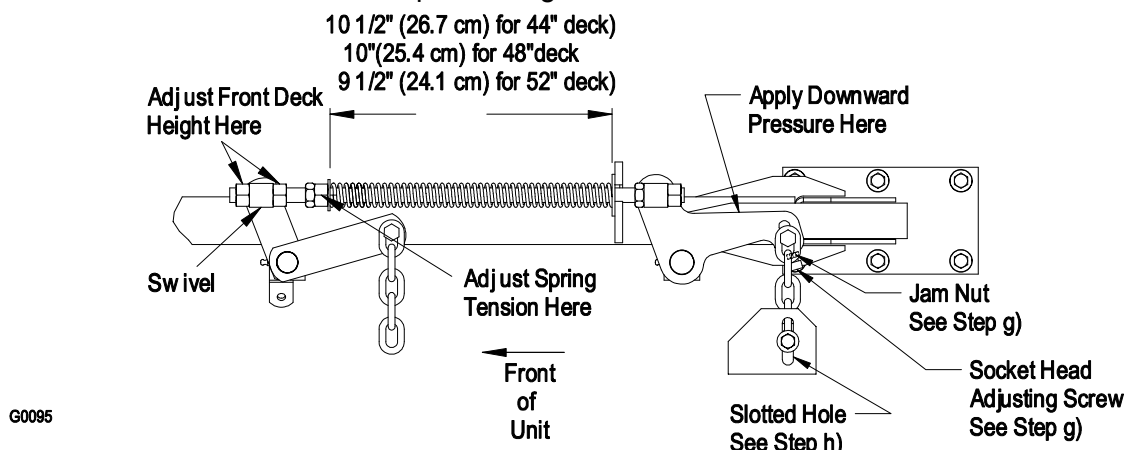

FIGURE 11
- e) Raise the deck to the 4.5" (11.4 cm) height position and take as much force as possible off of the two large deck lift springs by loosening the nuts at the front of each spring. See Figure 11.
- g) *For units **with** a socket head adjusting screw and slotted hole in rear deck lift arm:* Loosen the two (2) top chain bolts in slots in the rear deck lift arms. Loosen jam nuts and back off the socket head adjusting screws on the bottom of the arms until the chains are just loose when pressure is applied to force rear deck support arms down. See figure 11. Continue to press down on rear deck support arms and turn the socket head adjusting screws in until slack is taken out of each chain. Tighten the jam nuts. Tighten the chain bolts in the deck lift arms making sure they do not move while tightening.
- h) *For units **without** a socket head adjusting screw and slotted hole in rear deck lift arm:* Loosen the two (2) bottom chain bolts in slots at the rear of the cutting deck. Press down on the rear deck support arm (as shown in Figure 11). While holding the rear deck support arm down, take the slack out of the rear chains and tighten hardware at the bottom of the rear chains.
- i) Loosen four (4) nuts which secure front swivels (two per side), until front chains are loose and front of deck is supported by the 1-1/8" (2.9 cm) block. Do not loosen front chain hardware.
- l) Raise deck lift lever to the 4.5" (11.4 cm) cutting height position (also transport position, See Figure 9. Adjust spring compression until proper distance is obtained between the two washers (See Figure 11) by turning the nut at the front of each spring. Lock nuts in position with jam nuts.